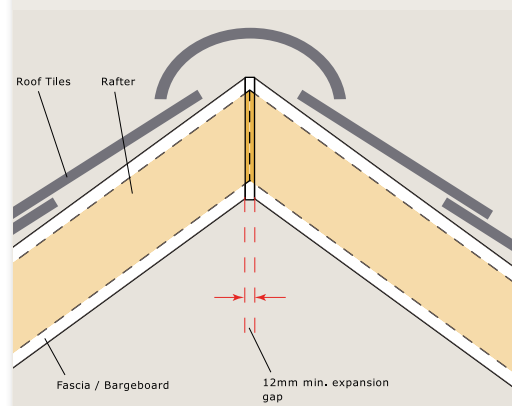

Fig. 22 Bargeboard at gable end showing apex.
**Figure 22** shows a typical apex of a building. The bargeboard is cut to leave a 6 mm expansion gap at either side of the centre line. The junction is then finished with a FIN1 Finial joint cover to match the bargeboard profile with colour matching Plastops pins or nails. The principles are the same whether the bargeboard is projecting or flush.